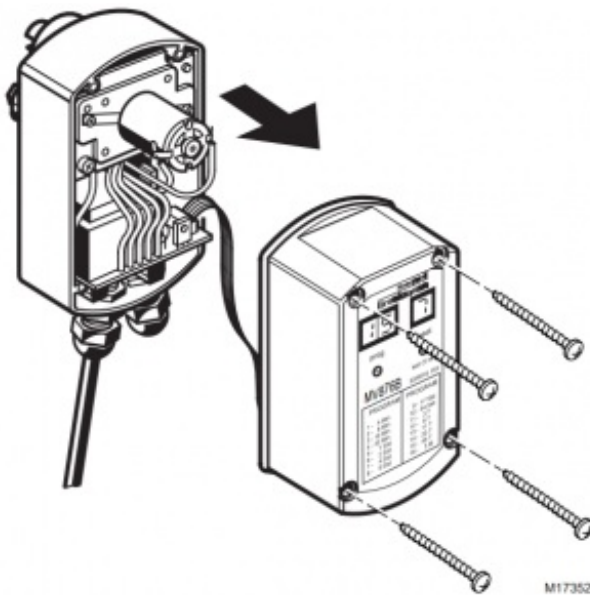

Fig. 11. Removing the MV876 cover.
1. Unscrew the four housing screws and set them See Figure 11.
1. Unscrew the four housing screws and set them aside. See Figure 11.
2. Remove the MV876 cover. See Fig. 11.
1. Unscrew the four housing screws and set them aside (see Fig. 11).